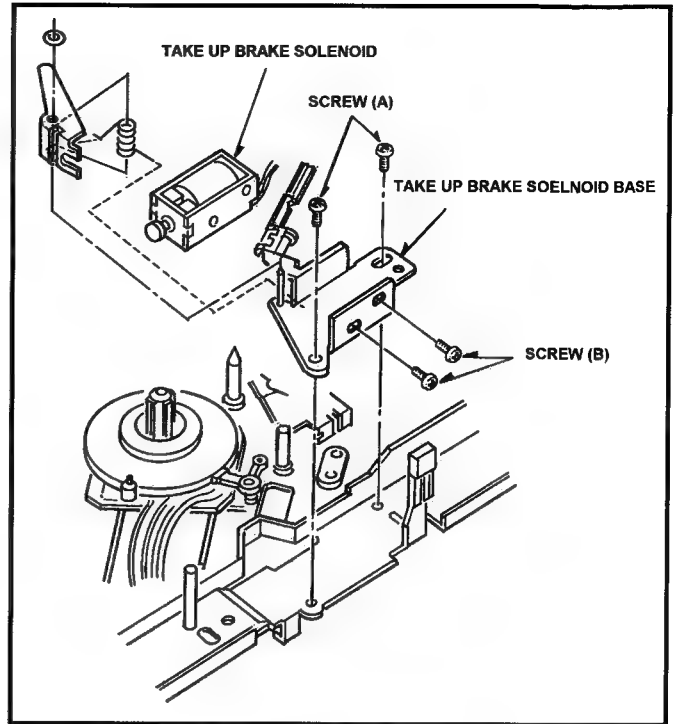

Fig.6-6-1 Removal of Take Up Brake Solnoid
5. Unscrew the 2 screws (A) and remove the Take Up Brake Solenoid Base Unit as shown in Figure 6-6-1.
6. Unscrew the 2 screws (B) and remove the Take Up Brake Solenoid from Take Up Brake Solenoid Base Unit as shown in Figure 6-6-1.
- Note:** Hang on the Take up Brake Spring as shown in Figure 6-6-1.
- Note:** Hang on the Supply Brake Spring as shown in Figure 6-6-1.